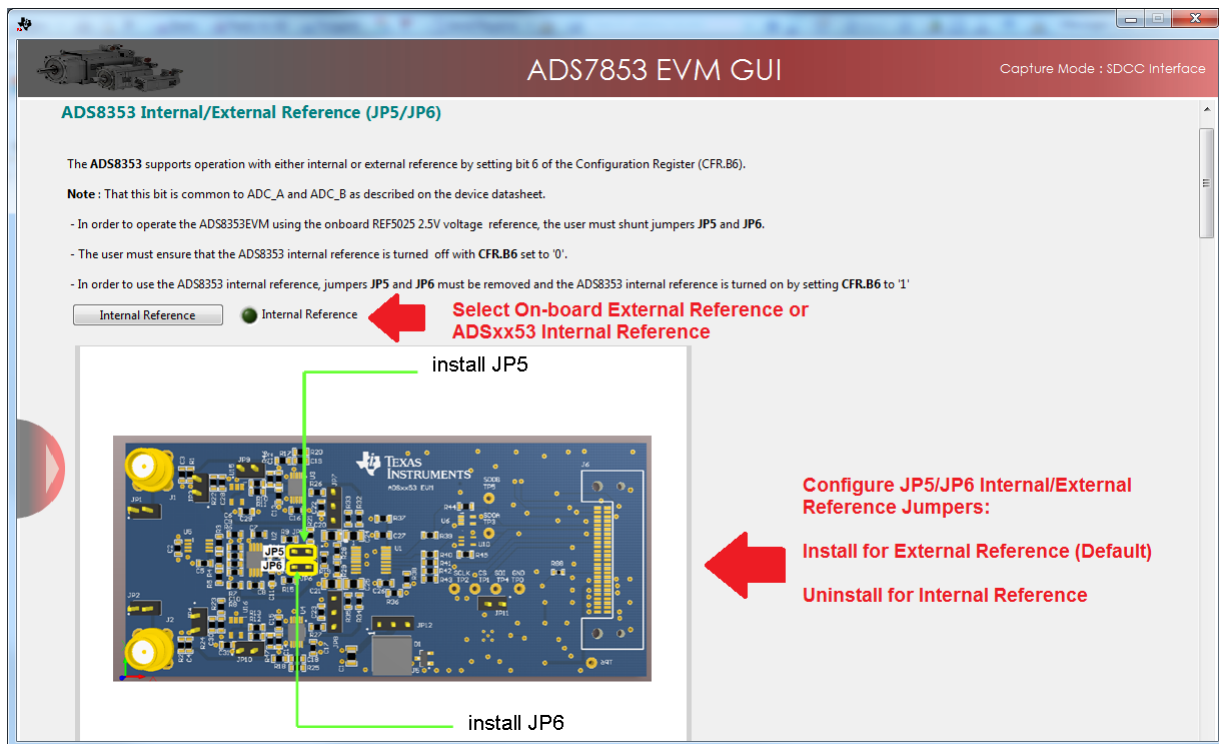

Figure 19. Selecting the External Onboard Reference or the ADSxx53 Internal Dual Reference
2. On the *ADSxx53 EVM Settings* page, find the *Internal Reference [CFR, Bit[6]]* button to select the internal or external onboard reference sources. Jumpers JP5 and JP6 must be installed when selecting the external REF5025 (U5) onboard reference. Make sure to uninstall jumpers JP5 and JP6 when selecting the ADSxx53 device internal reference. The GUI displays the appropriate reference jumper settings, as shown in Figure 19.